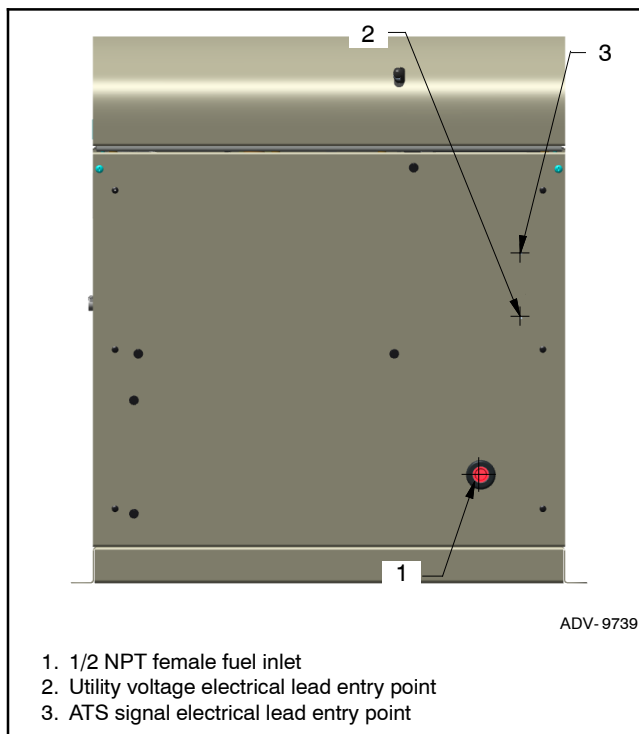

Figure 1-20 Electrical Lead Entry Locations
Drill or punch holes in the enclosure for the electrical conduit in the locations shown in Figure 1-20.
1. Drill holes for the conduit fittings. See Figure 1-20 for the recommended electrical inlet locations. Feed the cables through the openings.